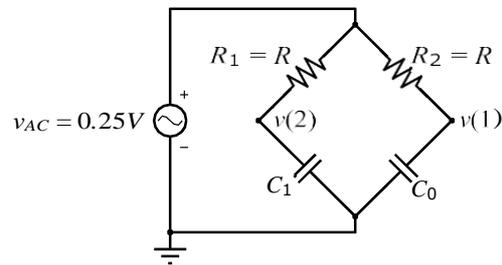
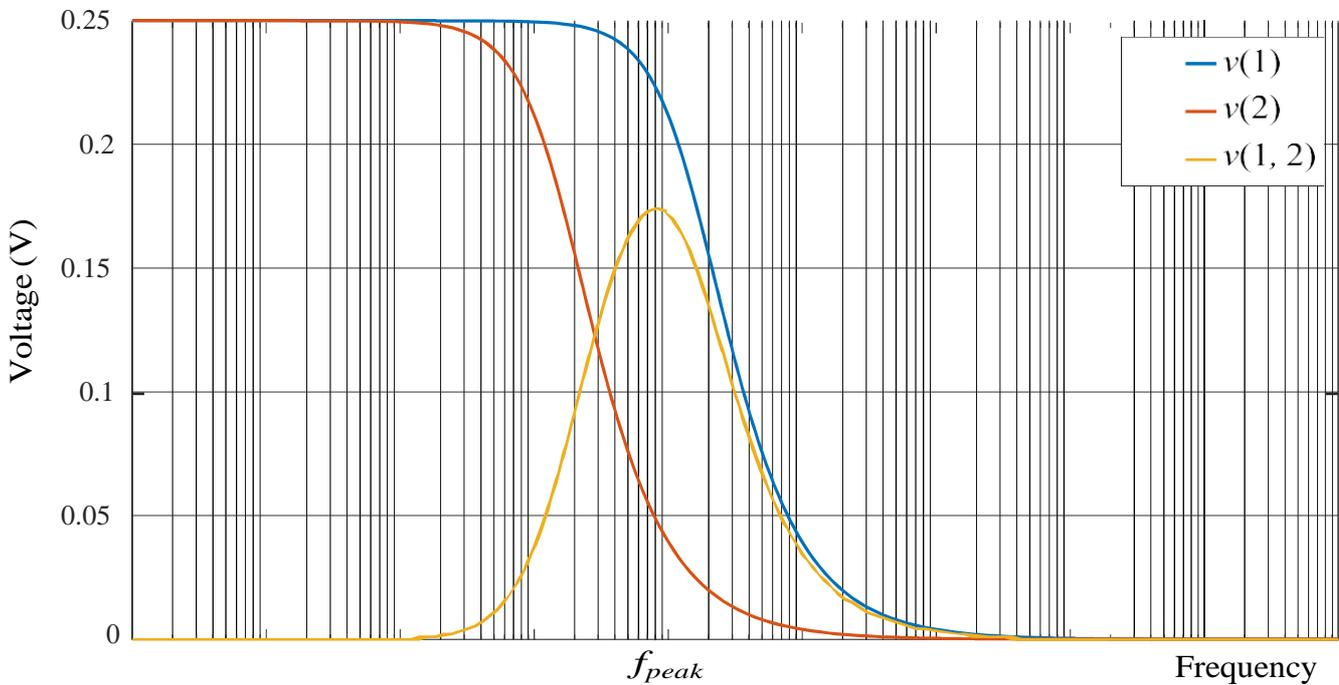

Figure 3: Simple Bridge Circuit
Figure 4: Bridge circuit output voltages as a function of frequency.
Step 2: Using your favorite circuit simulator, build the circuit shown in Figure 3. Set the amplitude of the AC voltage source as 0.25V. Set the capacitances C_0 and C_1 with your theoretical values found in Step 1. Select an initial value R for the resistors R_1 and R_2 . Perform an AC sweep starting from 1Hz to 1GHz with 100 points per decade. When the voltages $v(1)$, $v(2)$ and $v(1) - v(2)$ is plotted as a function of frequency, the result is similar to the graph shown in Figure 4.
As can be seen in Figure 4, the differential voltage “ $v(1) - v(2)$ ” reaches its maximum for a specific frequency f_{peak} . Adjust R to an appropriate value for f_{peak} to fall somewhere between 1-10kHz. This is important for the rest of the circuit since every operational amplifier has a limited bandwidth. Fill in the appropriate resistor value R and the resulting peak-frequency f_{peak} to the blanks given below.